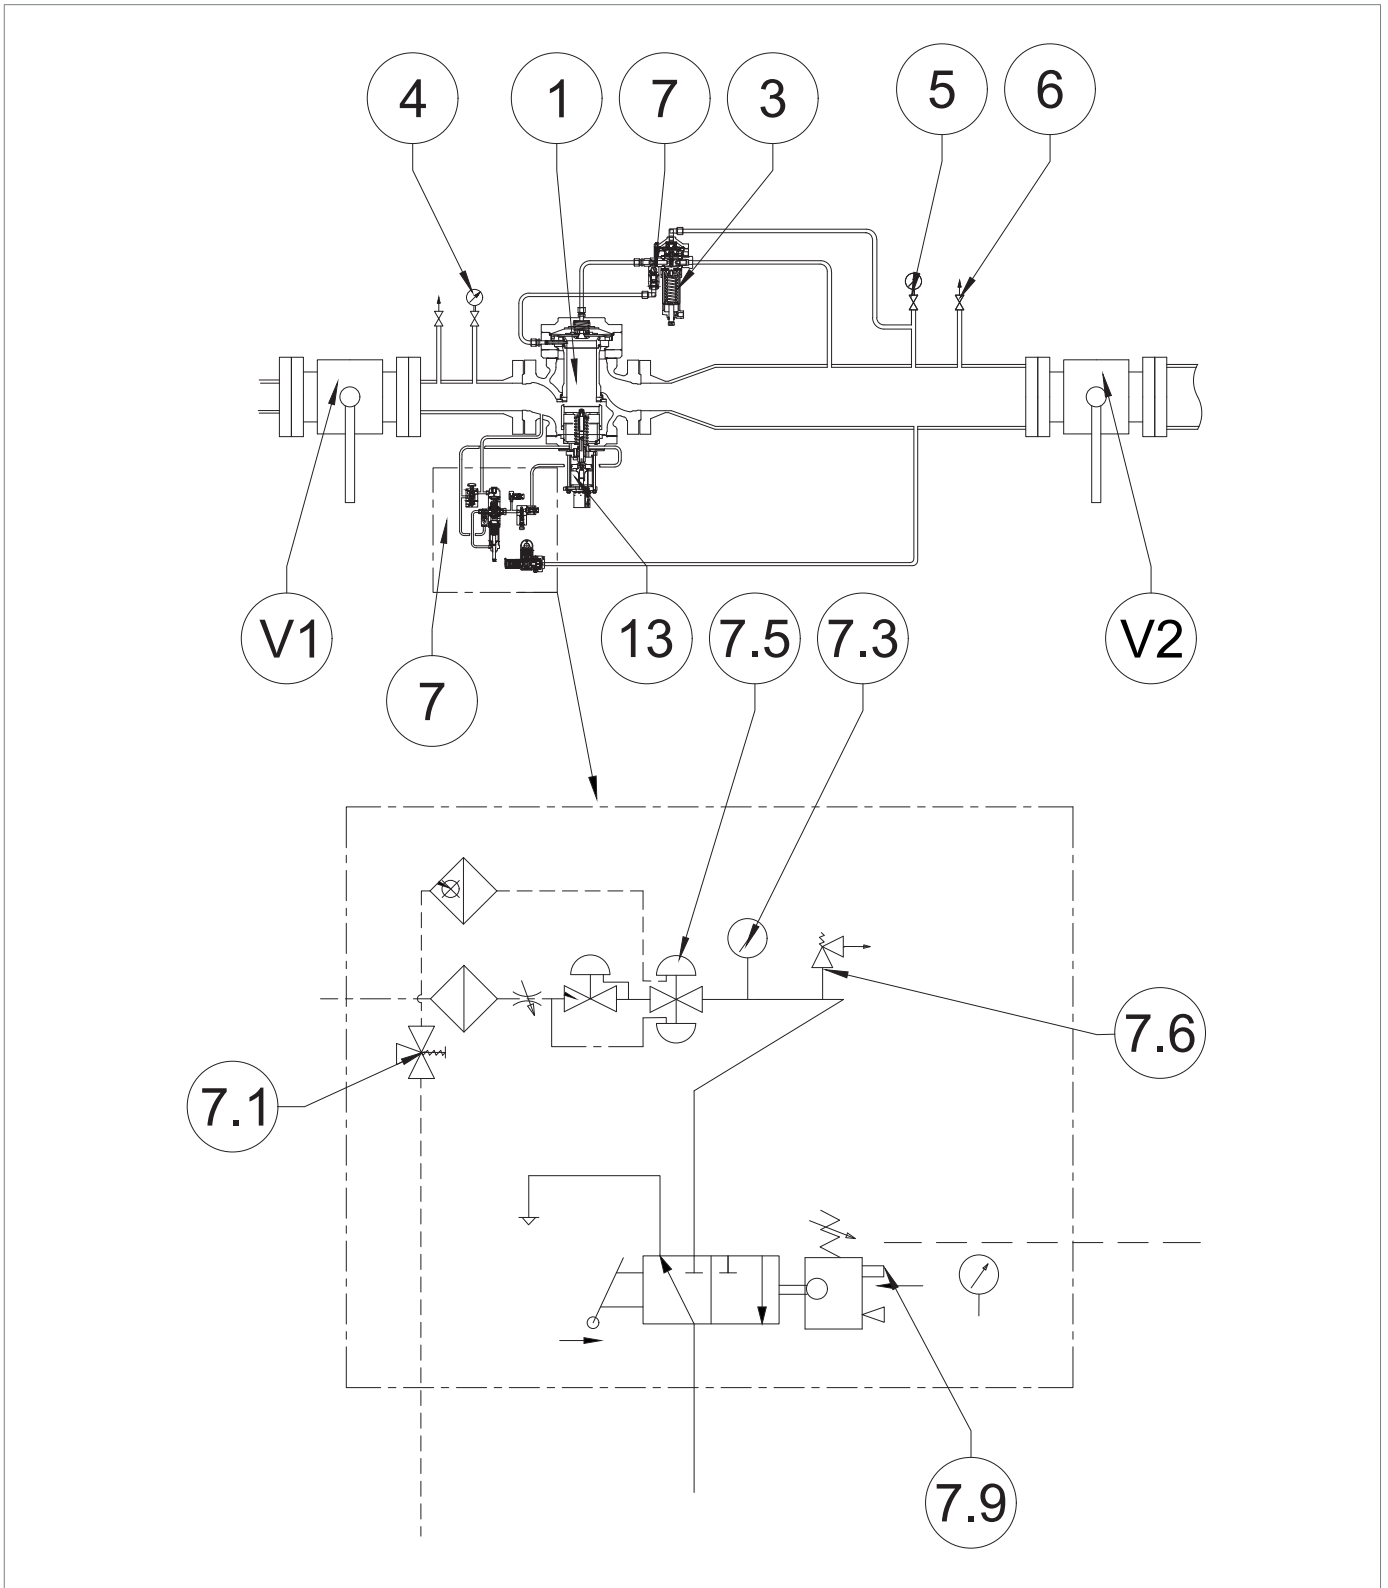

Fig. 8.31. LINE OFF 2.0 commissioning and calibration for the HB/97 built-in slam-shut valve
Next, check that the pressure indicated by the pressure gauge installed on the LINE OFF 2.0 device (Pos. 7.3 - Figure 8.31.) is 0 bar, ensuring complete depressurisation of the line.
- Next, check that the pressure indicated by the pressure gauge installed on the LINE OFF 2.0 device (Pos. 7.3 - Figure 8.31.) is 0 bar, ensuring complete depressurisation of the line.